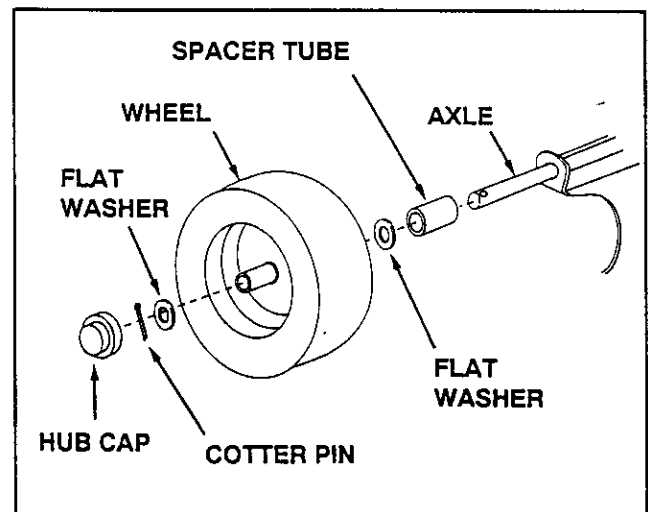

FIGURE 12
- Assemble a spacer tube onto each end of the axle as shown in figure 12.
- Assemble a flat washer, a wheel (valve stem facing out), and another flat washer onto the axle as shown in figure 12. Secure the wheel with a cotter pin, spreading the ends so that a hub cap can fit over the pin. Assemble the hub cap by pressing it onto the flat washer. Repeat on other end of axle.